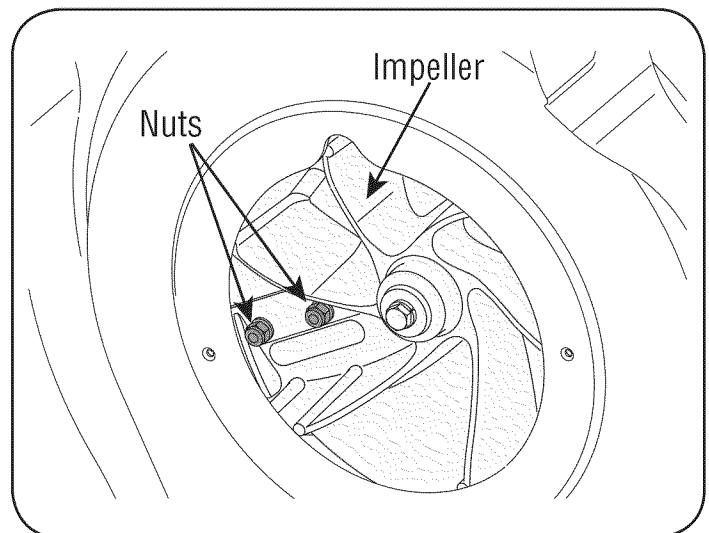

Figure 28
10. The nuts on the flat head cap screws can be reached from underneath using a 1/2-inch socket, universal, and extension. See Figure 28.